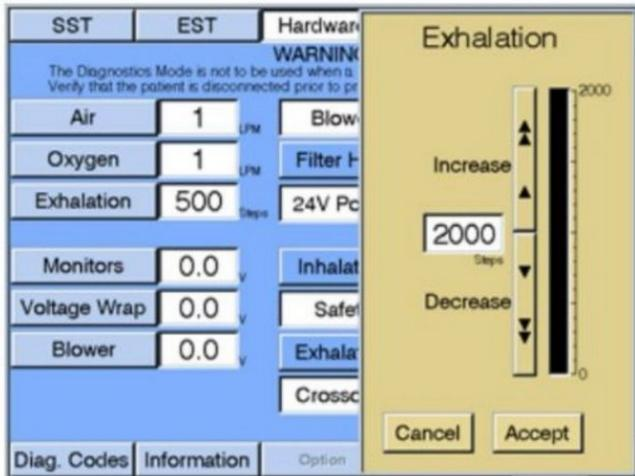

Figure 8-18: Diagnostic Mode - Selecting Exhalation Position
- On the Hardware screen, touch Air (blue background, seen in the top left area of Figure 8-18 on page 8-21 of the Service Manual).